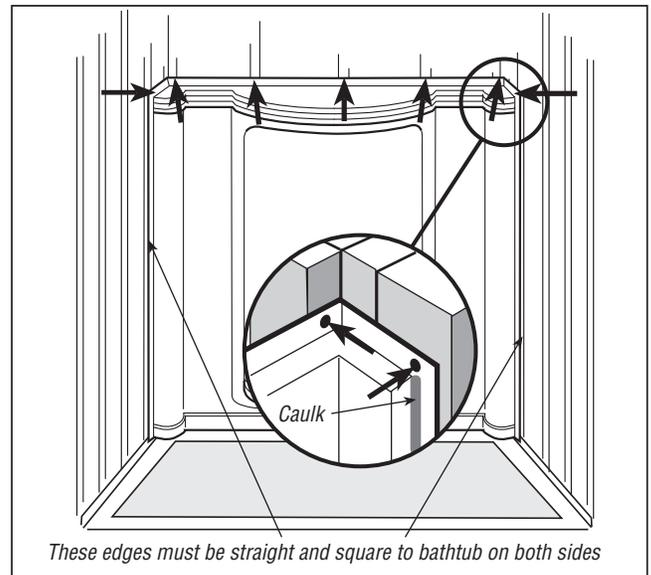

Figure 4
- 4** Locate and drill a 3/16" hole in the center of the nailing flange at the top of the panel and centered on each stud (*Figure 4*). **Check that the vertical nailing flanges on both sides are straight and square with the tub (you may need to manually bend the nailing flanges to straighten).** Hammer 3/4" galvanized roofing nails through each hole and into the studs, securing the wall panel. Add a bead of caulk down the front vertical surface of the back panel that has the slots for the end wall hooks (*Figure 4*).